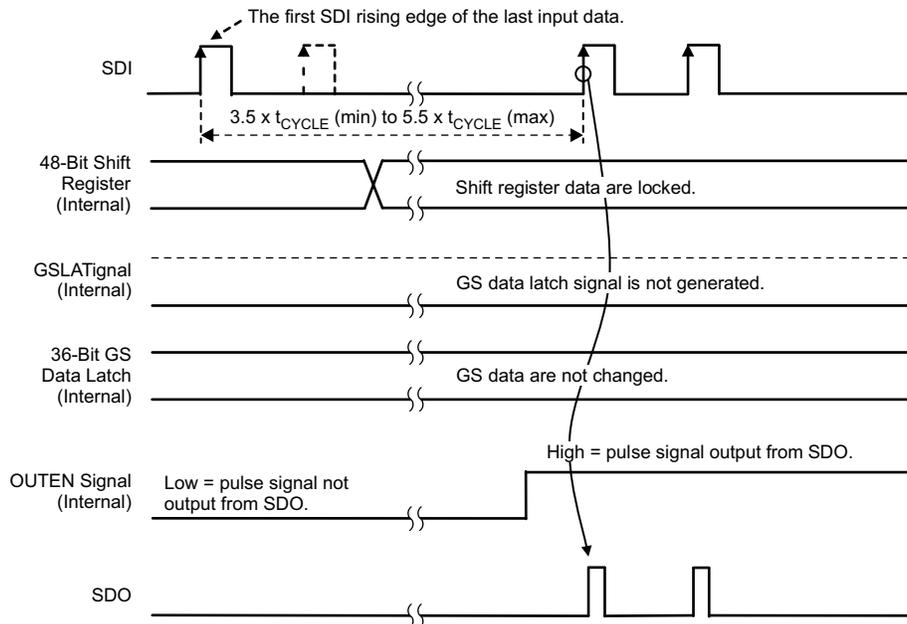

Figure 16. End of Sequence (EOS)
One communication cycle end of sequence (EOS) must be input after the 48-bit data are written because the TLC5973 does not count the number of input data. When SDI is held low for the EOS hold time ( $t_{H0}$ ), the 48-bit shift register values are locked and a buffered SDI signal is output from SDO to transfer GS data to the next device. Figure 16 shows the EOS timing.
3. Execute one communication cycle EOS (refer to Figure 16) for the first device.